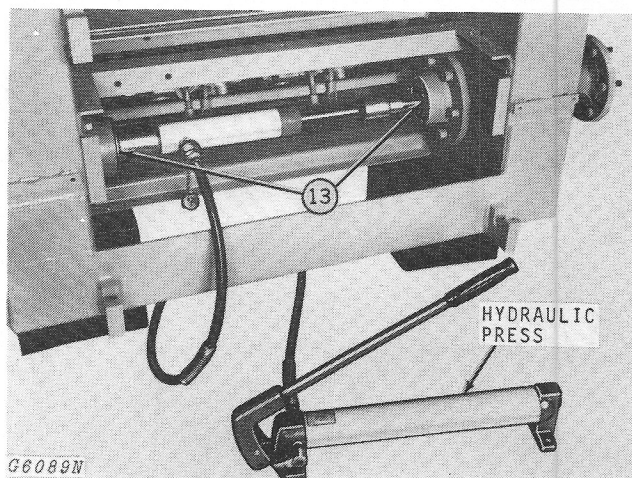

Fig. 10-Pressing Out Axle Shaft
13. Install a portable hydraulic press as shown in Figure 10. Block against the opposite axle hub and the threaded end of the axle to be removed. Use a small wooden block against the threaded end of the axle shaft.